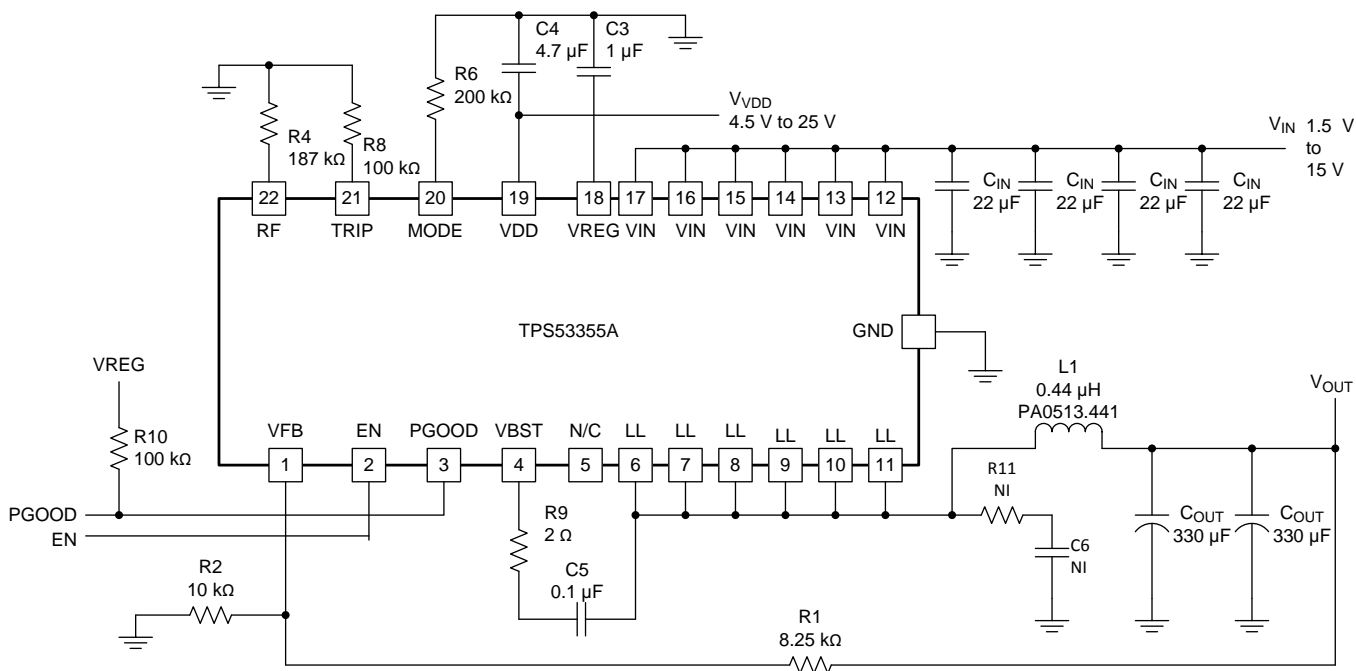

Figure 1. Typical Application Circuit Diagram
(1) Not production tested. Test condition is $V_{IN} = 12\text{ V}$, $V_{OUT} = 1.1\text{ V}$, $I_{OUT} = 10\text{ A}$ using application circuit shown in Figure 1.
(2) Ensured by design. Not production tested.